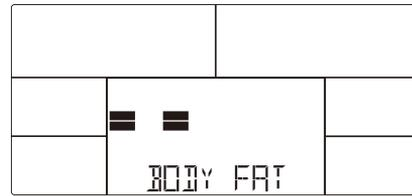

FIG 24
4. During the test, the user must hold the handle with both hands. And the LCD will display " = " " = " (Figure 24) for 8 seconds until the test is complete.